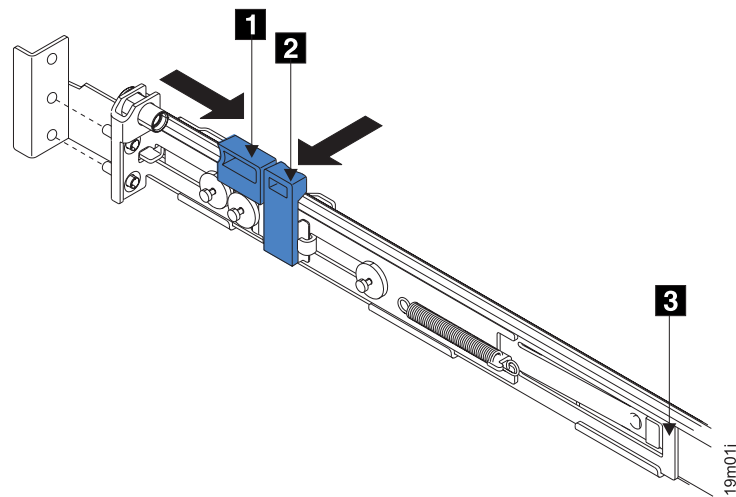

Figure 48. Opening the back latch-lock carrier assembly
5. Push the back rail bracket **1** (Figure 48) toward the front of the rail until it stops. The rail is now at its shortest adjustment.